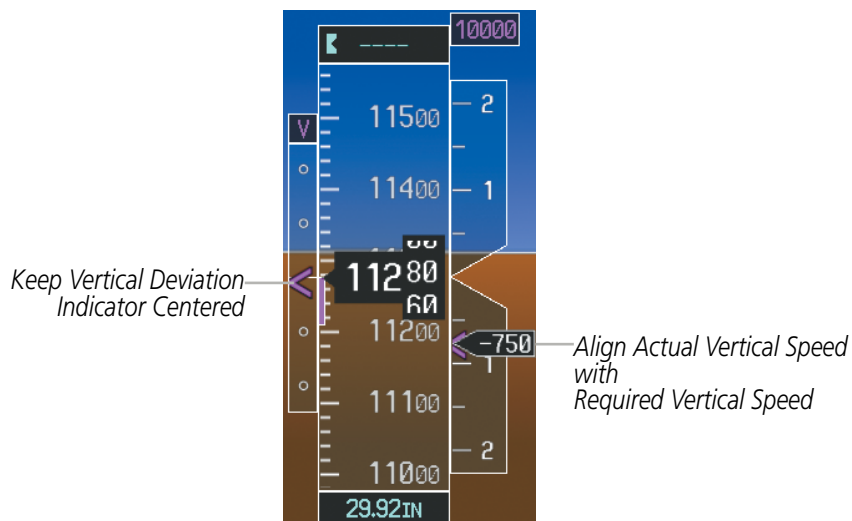

Figure 5-138 VDI & RVSI Showing Correctly Established Descent
- 16) Upon reaching TOD, a descent vertical speed is established by placing the VSI pointer in line with the RVSI as shown in Figure 5-138.